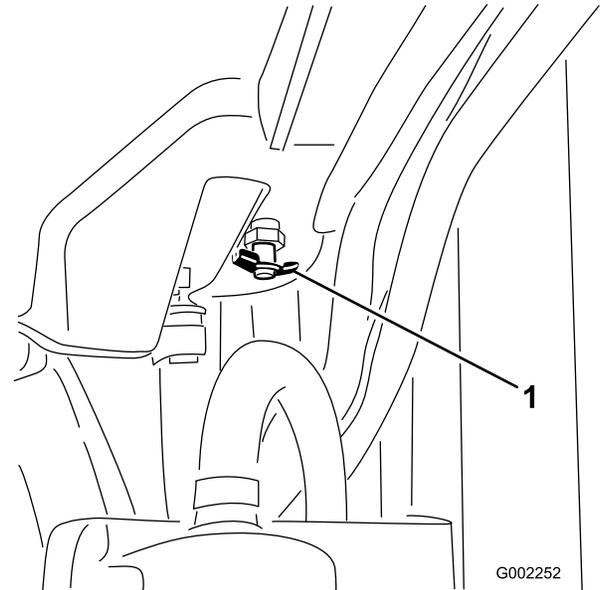

Figure 56
- Open the drain (Figure 56) and drain the coolant into the pan.